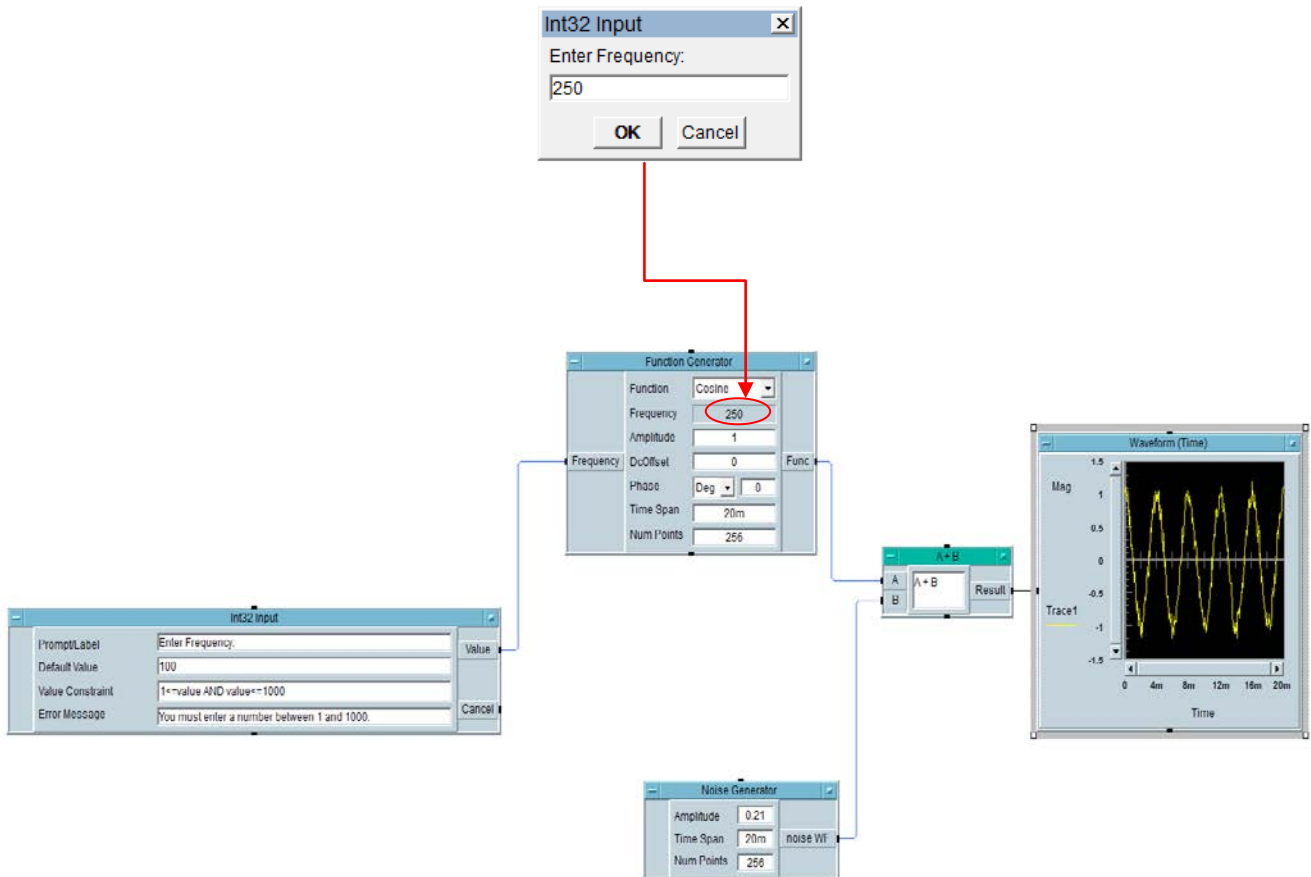

Fig. 16. Adjusting the frequency of the Function Generator with an Int32 Input Dialog Box
- Enter 250 into the text box below **Enter Frequency:** and click **OK**. You will observe a waveform similar to the one in Fig. 16.